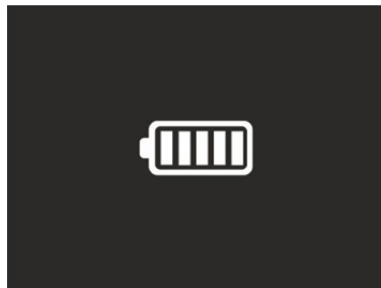

Fig. 55: Indication of complete recharge of the battery
3. When the symbol “” appears steady on the display, the charging process is complete (see Fig. 55).